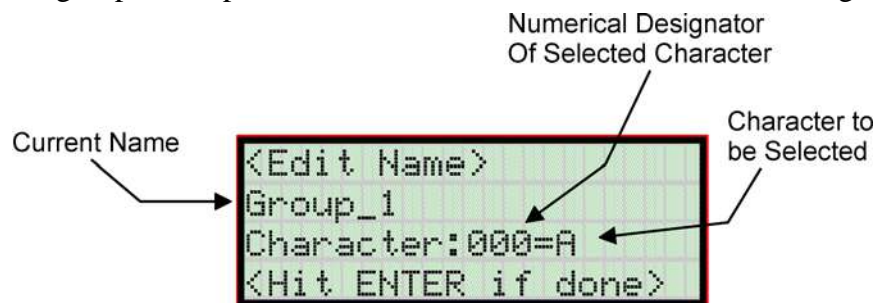

Figure 7-7 Selecting Character for Zone Name
7. To edit the group name, press **[1]**. A screen similar to the one shown in Figure 7-7 displays.